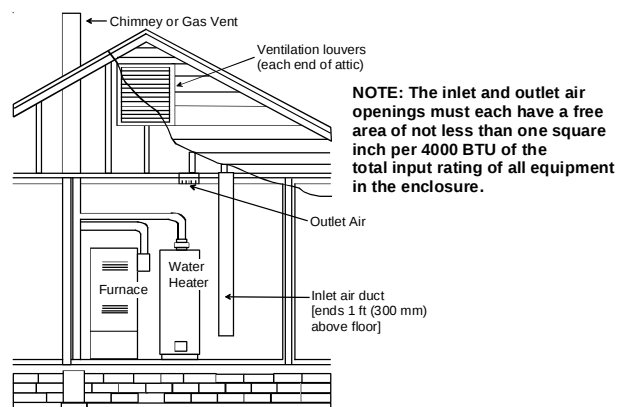

Figure A.9.3.3.1(1)(b) All Combustion Air From Outdoors through Ventilated Attic.
(2)* Where communicating with the outdoors through horizontal ducts, each opening shall have a minimum free area of $1 \text{ in.}^2/2000 \text{ Btu/hr}$ ($1100 \text{ min}^2/\text{kW}$) of total input rating of all appliances in the enclosure. [See Figure A.9.3.3.1(2).]